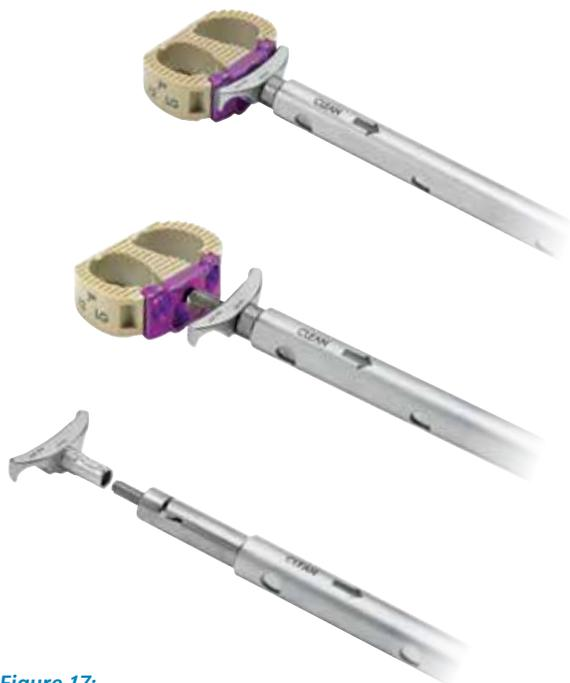

Figure 17:
- Load the assembled implant onto the inserter by inserting the tip of the draw rod into the plate and turning the thumbwheel clockwise (Figure 17).